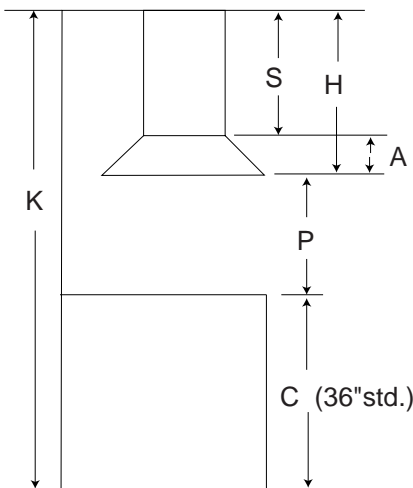

Figure 2
4. Hood installation height above cooktop is the users preference P (see Figure 2). The lower the hood above the cooktop, the more efficient the capturing of cooking odors, grease and smoke. Be sure that your hood model fits your installation.
## Pre-Installations Calculations (see Figure 2)
1. a) Select a hood preference height P (see Figure 2) that is comfortable for the user. (30" - 36" recommended, 24" - 36" allowed).
- b) Calculate Hood height your installation H (see Figure 2).  $H = K - C - P$ .
- d) Calculate Chimney structure height S (use formulas in Figure 2, and check dimensions of your hood). Save this calculation for use later in the installation.